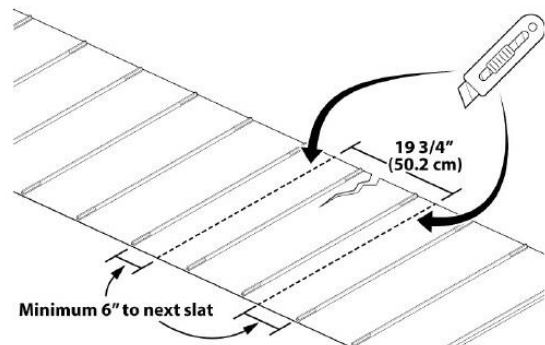

Figure 95
3. Measure 19 3/4" from the first line, ensuring the damaged section of the draper is included in this area and mark a second line, ensure this line is also straight and square. Figure 95